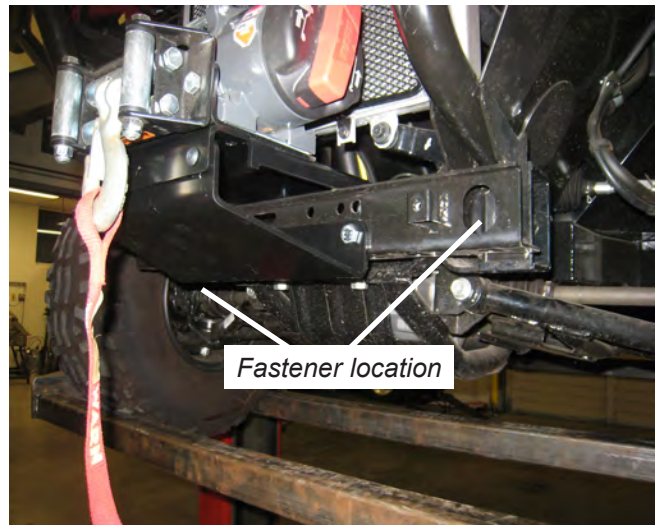

Figure 2
2. Remove the lower M12 bumper fasteners. See figure 2.